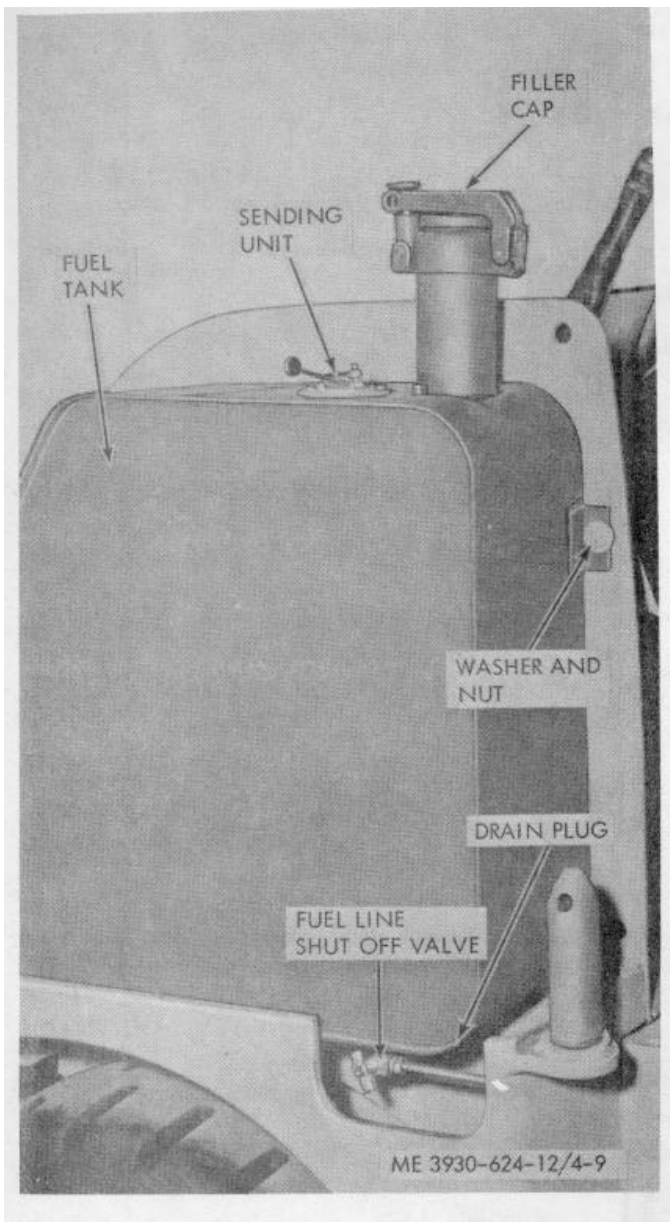

Figure 4-9. Fuel tank.
(1) Close the shut-off valve at the bottom of the fuel tank (fig. 4-9).
*a. General.* At periodic intervals of 1000 hours, remove the filler assembly from top of tank and clean the strainer. Remove the drain plug (fig 4-9) from the bottom of the fuel tank and allow sediment and water to drain from the tank.
(1) Remove the three capscrews and lockwashers from the outer edge of the mounting plate and lift the cowl away from the plate.
(2) Disconnect the wire from the terminal of the sending unit in top of the tank as illustrated in figure 4-9.
(3) Close shut-off valve at the bottom of the tank and remove the fuel outlet line from the valve nuts which mount the tank.
(5) Lift tank away from the frame being careful not to damage the tank or shut-off valve.